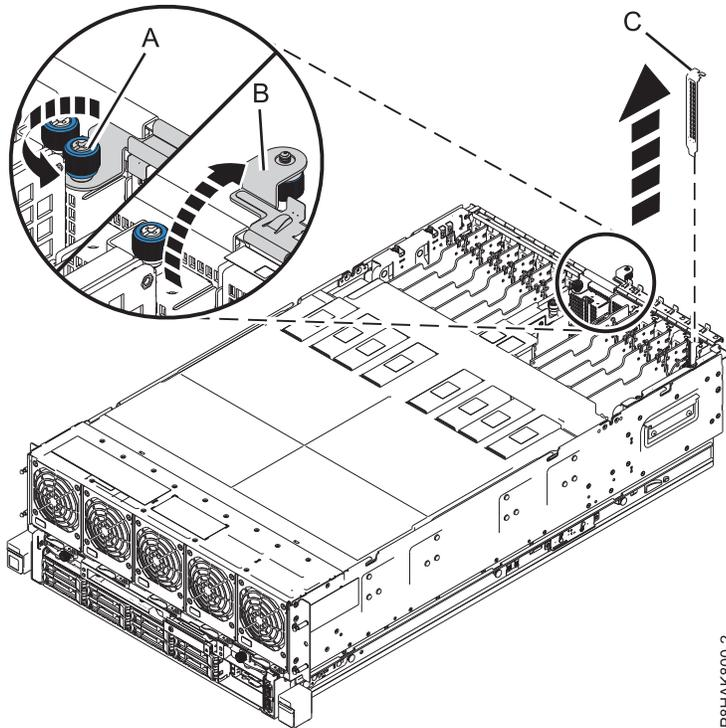

Figure 3. Removing a filler from a PCIe adapter slot in the 8408-44E or 8408-E8E system
- a. Unscrew the captive thumbscrew of the I/O retention bracket until fully loose. See **(A)** in Figure 3 on page 6.
- b. Open the I/O retention bracket by rotating it up and away from the system. See **(B)** in Figure 3 on page 6.
- c. To remove the filler, carefully grasp the filler **(C)** by its top edge or tailstock, and remove it from the system. See Figure 3 on page 6.